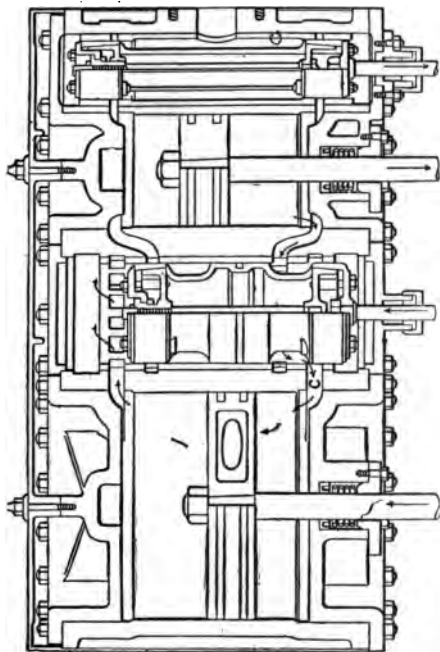

FIG. 149. CYLINDERS AND VALVES—REEVES COMPOUND VERTICAL ENGINE.
**A.** Both valves are of the piston type as shown in Fig. 149, with a unique expansion adjustment for wear which can be made without removing the valve from its chamber. The low-pressure valve is directly connected by eccentric to the shaft and set for three-tenths cut-off, which gives compression in the high-pressure cylinder. The smaller valve of the high-pressure cylinder is operated by a cam on the main shaft and regulated by an inertia governor on the inside of the fly wheel in the vertical engines, and from a pin in the governor arm in the horizontal engines.